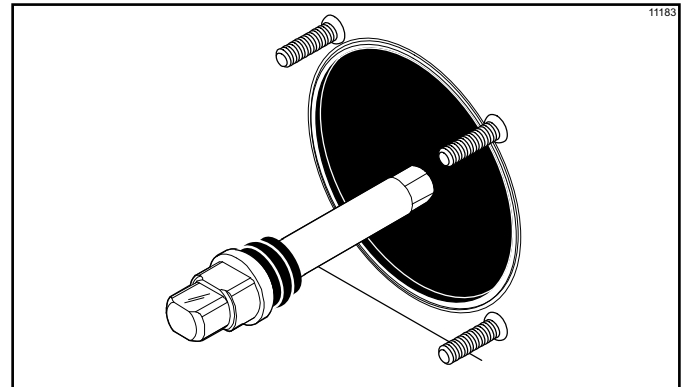

Figure 6-2
5. Insert the beater driveshaft through the rear shell bearing in the freezing cylinder and engage the hex end firmly into the drive coupling. See Figure 6-2.